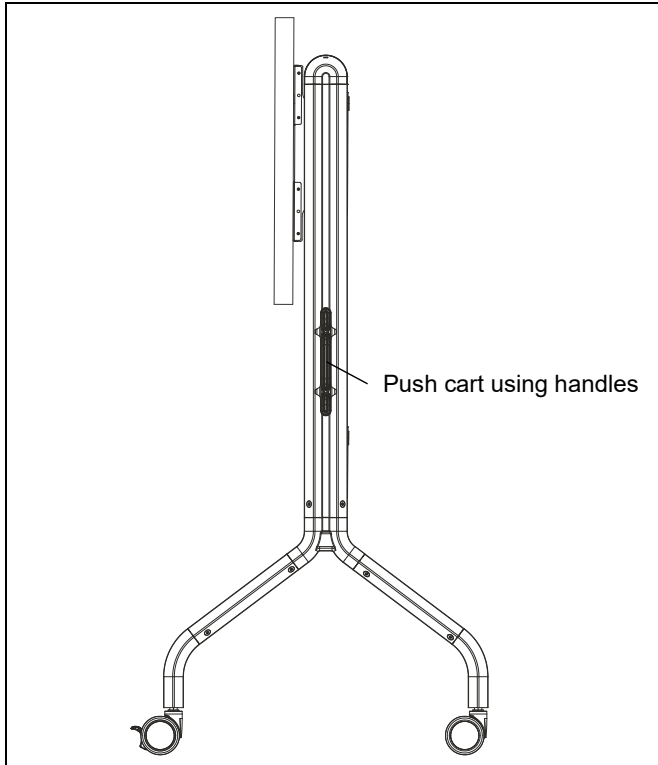

Figure 22
1. Always place cart on a level surface. Push cart using handles. (See Figure 22)